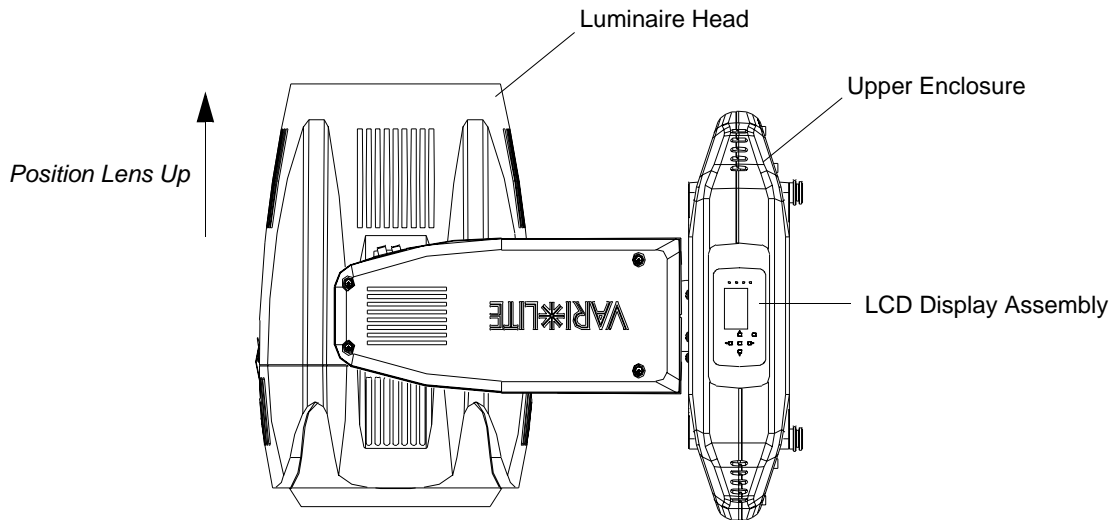

Figure 2-47: VLX Wash Luminaire
- Step 2. Carefully lay luminaire on flat, steady surface to have access to bottom cover of upper enclosure and LCD Display Assembly side is up. Be sure to rotate head as shown in Figure 2-47.